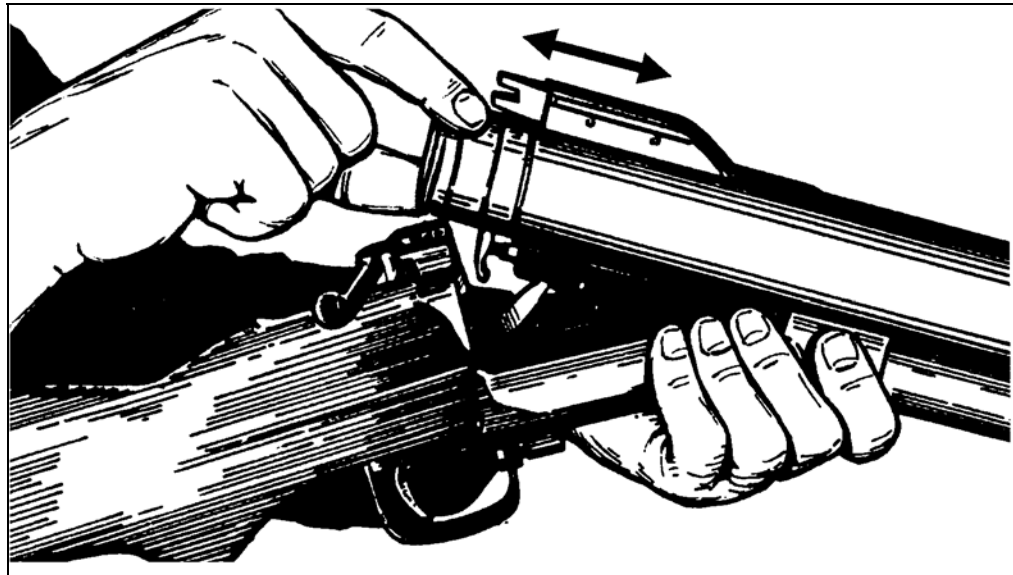

Figure A-17. Loading the weapon or ejecting a round or cartridge case.
d. **Ejecting.** The M79 grenade launcher does not eject rounds automatically; you must remove the expended cartridge case or live round from the barrel (Figure A-17).
e. **Loading.** With the barrel in the open position, insert a cartridge into the breech end of the barrel (Figure A-17).